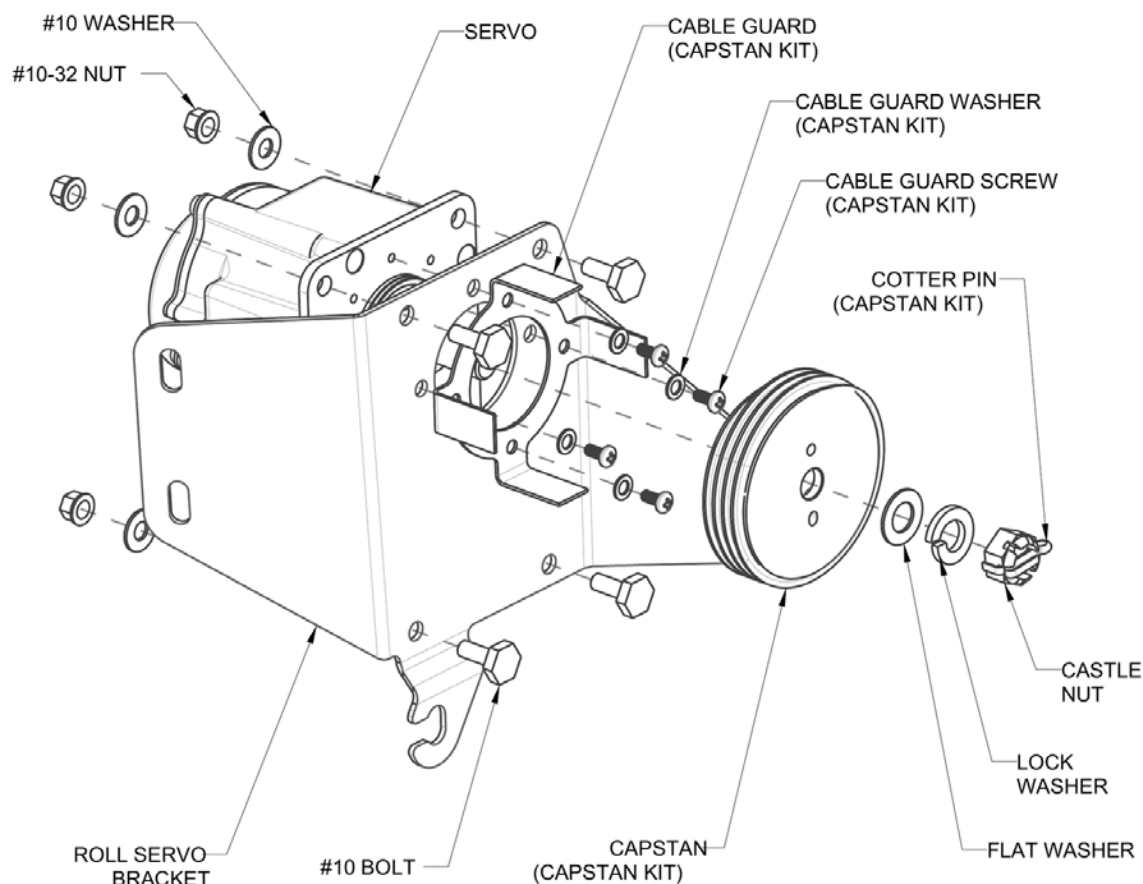

FIGURE 14-38
2. Remove the cotter pin from the subassembly. (See Figure 14-38.)
1. Position Servo to the Roll Servo Bracket. (See Figure 14-38.)